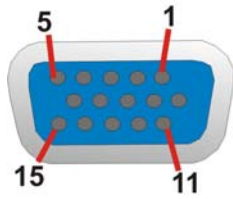

Figure 4-28: VGA Connector
- CN Pinouts:** See Figure 4-28 and Table 4-29